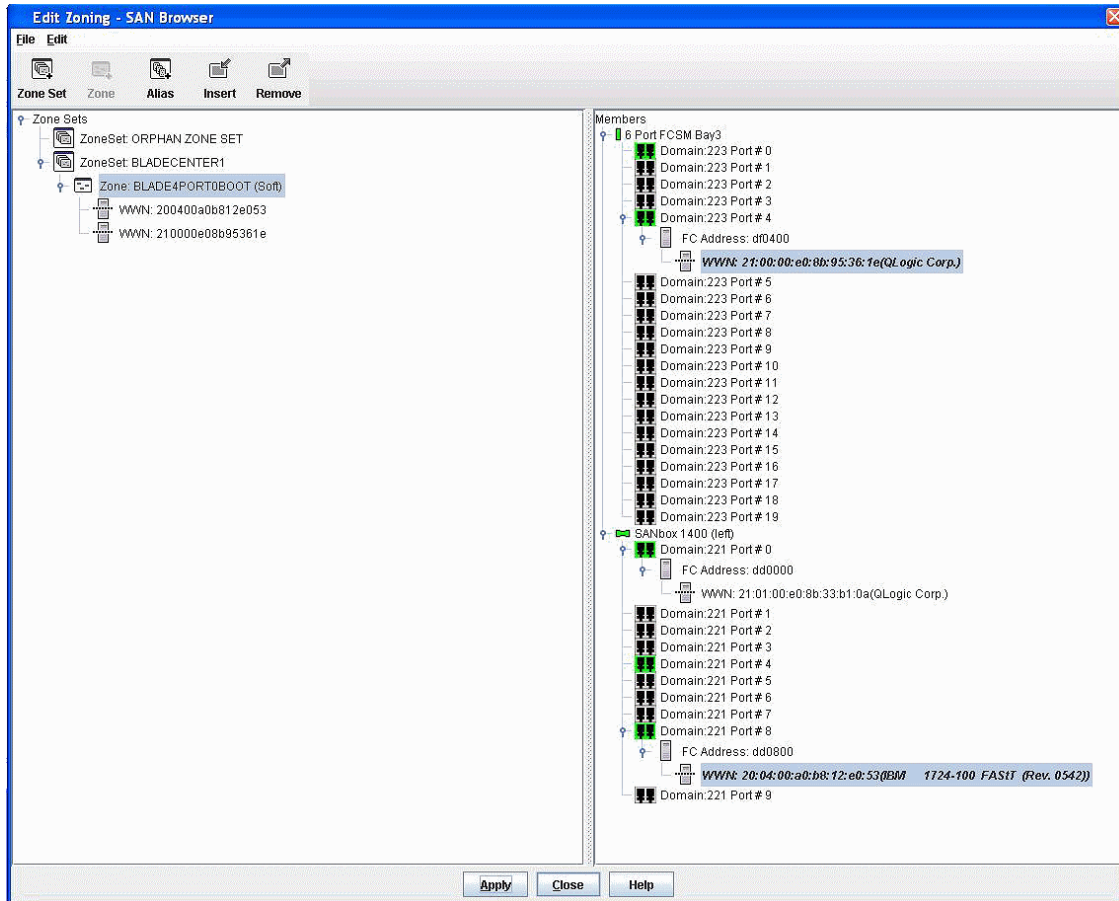

Figure 9-30 Close edit zoning
16. Click the **Close** button to complete saving your zone. You are returned to a window that is similar to Figure 9-30.